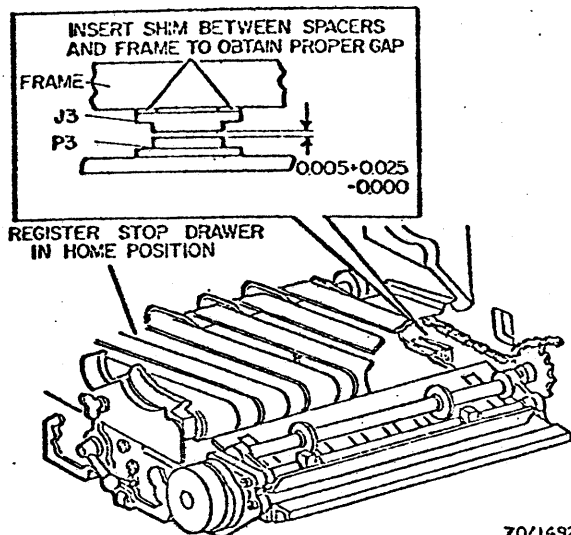

Fig. 3-136. Gap Between Terminal Blocks
2. Insert shim between spacers and frame to obtain proper gap (Fig. 3-136).